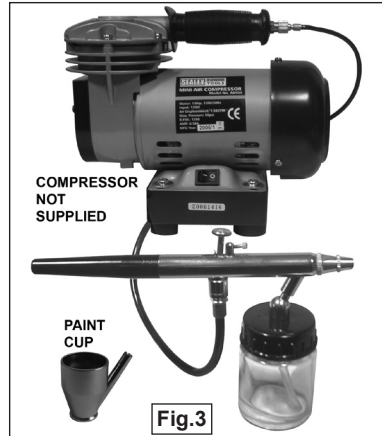

Fig.3
- 3.4. To use a compressor such as the Sealey Model No: AB900 use the adaptor supplied with the compressor to connect the air hose, as shown in fig.3.